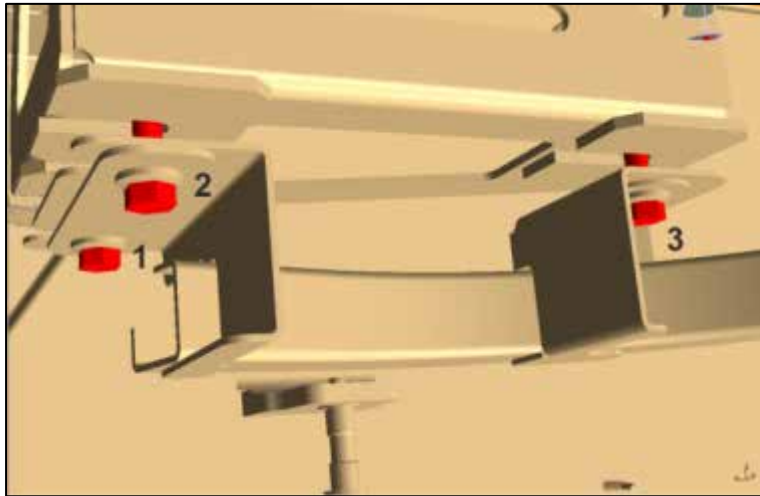

Figure 65
- 98. Tighten all three screws to **16 lb-ft.** (Figure 65)